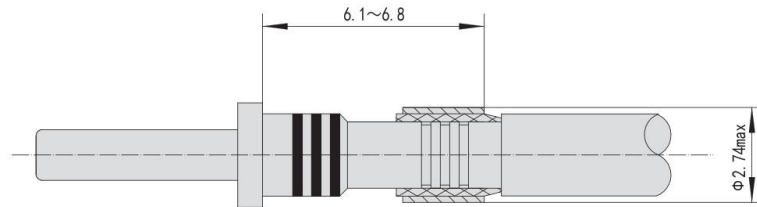

Figure 1.7
⑦ Place the crimp sleeve forward on the cable shielding layer according to Figure 1.7, the position size of 6.1~6.8, cut the excess shielding layer beyond the shield, and use the M22520 / 4-01 tool and M22520 / 4-02 positioner: crimp it once, rotate the contact parts 45 degrees again. After the second crimp. the diameter of the shield crimp sleeve must not be greater than 2.74.